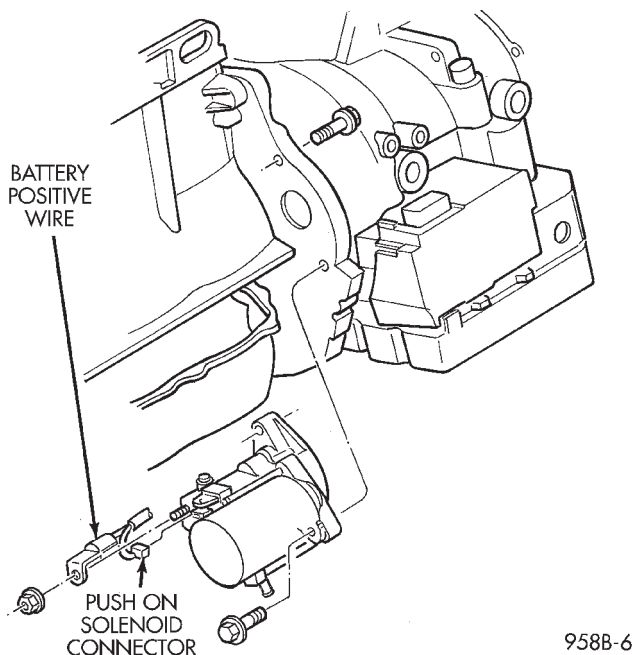

Fig. 8 Wire Terminal Connection
- (2) Remove air cleaner resonator, refer to Group 14, Fuel.
- (3) Remove three Transmission Control Module (TCM) mounting screws. Move TCM to provide access to top starter mounting bolt. DO NOT disconnect TCM wiring.
- (4) Remove top bolt attaching starter to transmission housing (Fig. 8).
- (5) Raise vehicle.
- (6) Remove battery positive cable nut from starter and remove cable.
- (7) Disconnect push on solenoid connector.
- (8) Remove the bottom bolt attaching starter to transmission housing (Fig. 8).
- (9) Remove starter from vehicle.
- (1) With vehicle is raised, set starter face into transmission housing.
- (2) Lower vehicle.
- (3) Install top starter mounting bolt but do not tighten.
- (4) Raise vehicle.
- (5) Install bottom starter mounting bolt and tighten to 54 N·m (40 ft. lbs.) torque.
- (6) Clean corrosion/dirt from wire terminals before installing wiring to the solenoid.
- (7) Connect battery positive cable to solenoid post (Fig. 8).
- (8) Connect the push-on solenoid connector.
- (9) Lower vehicle.
- (10) Tighten top starter bolt to 54 N·m (40 ft. lbs.) torque.
- (11) Install TCM and the mounting screws.
- (12) Install air cleaner resonator, refer to Group 14, Fuel.
- (13) Connect battery remote cable to the remote terminal.